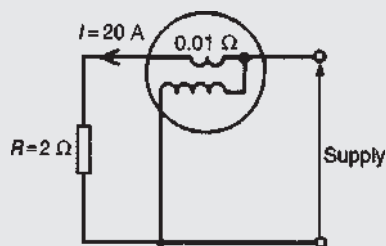

Figure 10.13
Problem 6. (a) A current of 20 A flows through a load having a resistance of 2Ω . Determine the power dissipated in the load. (b) A wattmeter, whose current coil has a resistance of 0.01Ω is connected as shown in Fig. 10.13. Determine the wattmeter reading.
2. (a) A current of 15 A flows through a load having a resistance of 4Ω . Determine the power dissipated in the load. (b) A wattmeter, whose current coil has a resistance of 0.02Ω is connected (as shown in Fig. 10.13) to measure the power in the load. Determine the wattmeter reading assuming the current in the load is still 15 A. [(a) 900 W (b) 904.5 W]